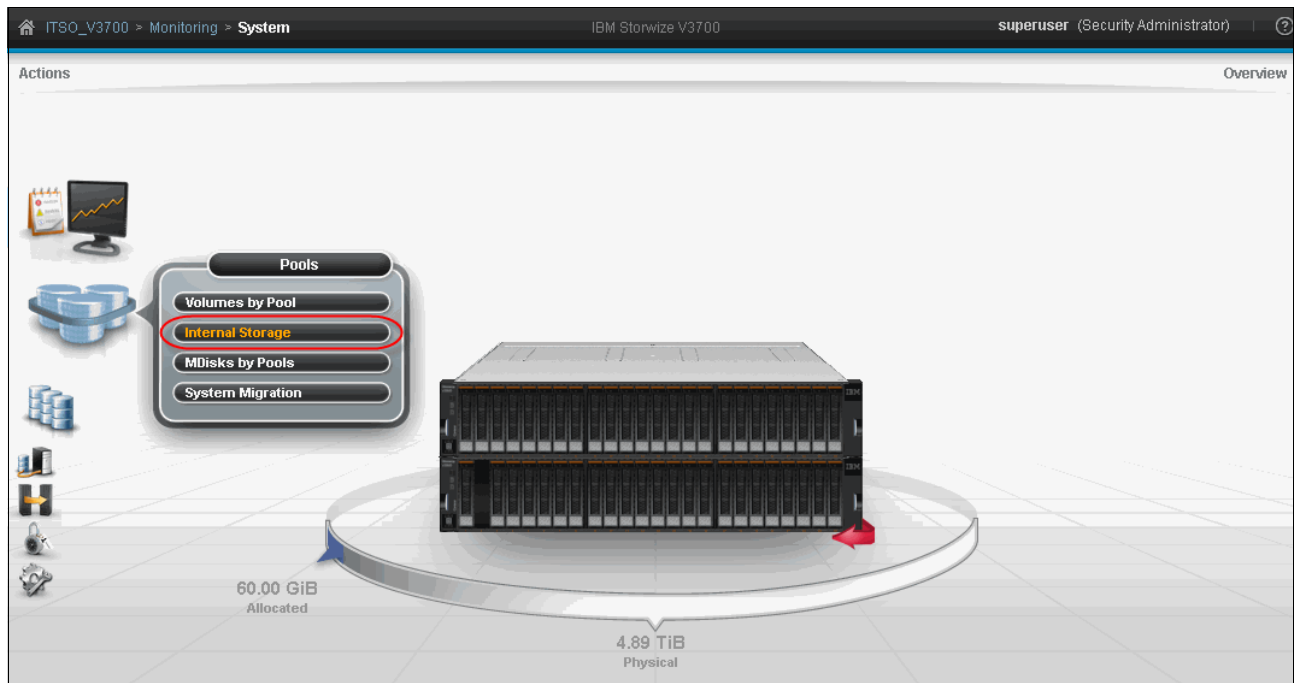

Figure 7-1 Internal Storage Details accessed from the Pools icon
3. Click **Internal Storage**, as shown in Figure 7-1.